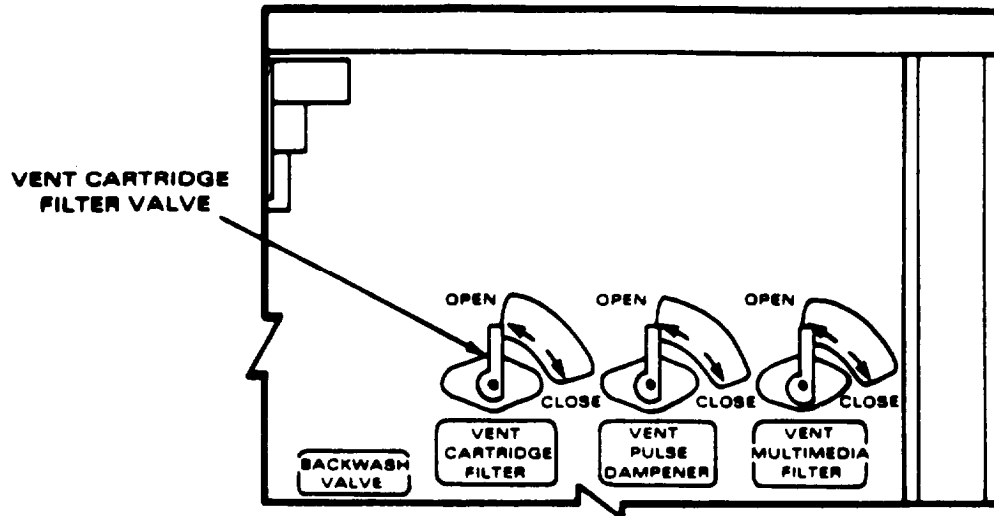

Figure 2-53. Cm Cartridge Filter Vent Valve
- (1) Make sure VENT PULSE DAMPENER VALVE (fig. 2-53) is open.
- (2) Set R.O. Pump RESET switch upward. R.O. pump LOW PRESSURE lamp goes OFF and switch returns to ON.
- (3) Hold R.O. PUMP switch upward to START.
- (4) As soon as R.O. PUMP green lamp comes on, release switch.
- (5) Switch will return to RUN.